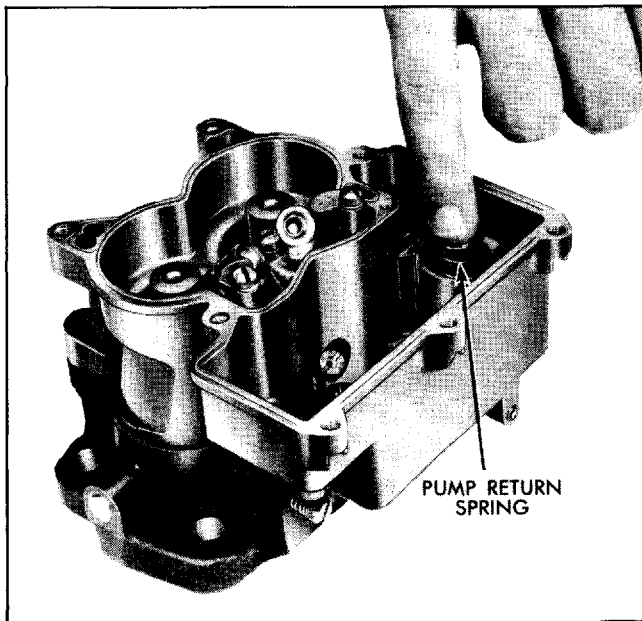

Fig. 6B-103 Replacing Pump Return Spring
1. Install fast idle cam (Fig. 6B-102).
2. Drop pump discharge check ball into discharge hole. Ball is  $\frac{3}{16}$ " diameter (steel). Replace spring and retainer (Fig. 6B-100).
3. Replace cluster and gasket, tighten screws evenly and securely. Make certain center screw is fitted with gasket to prevent pump discharge leakage (Fig. 6B-99).
4. Replace main metering jets and power valve (Fig. 6B-98).
5. Drop pump intake ball check into hole in pump well. Ball is  $\frac{5}{32}$ " diameter (aluminum). Install pump return spring, pressing with finger to center it in pump well (Fig. 6B-103).
1. Place new gasket into position and attach choke housing to air horn. Tighten screws securely (Fig. 6B-93).
2. Assemble choke piston to shaft with pin, with flat cut side of piston toward air horn (Fig. 6B-92).
Place shaft in choke housing and rotate clockwise so that piston rides in housing (Fig. 6B-91).